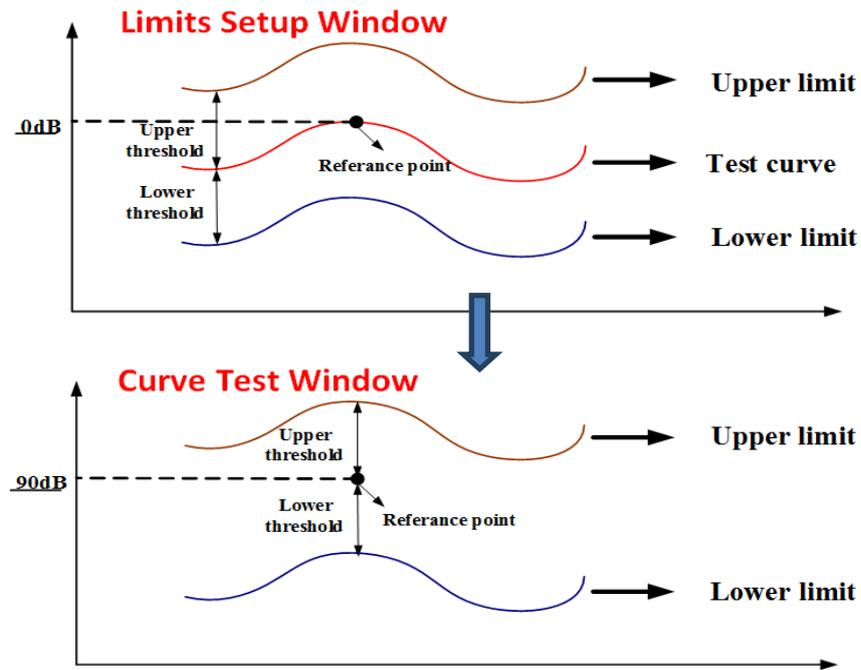

Figure 4.39 Schematic of Absolute Limits Method
To facilitate the setup of curves limits, the software introduces the concept of reference value, that is, the actual curves limits are obtained by drawn curves limits+ reference value. The drawing principle of benchmark curve in the curves limits setup interface is to translate the actual curve to 0, according to the reference frequency point, as shown in Figure 4.39. The reference frequency is 1k. The reference value is 90dB. That is, after the curves limits are set, the curves limits center of 1kHz should be in 90dB.
- ✓ Determine the finally position of curves limits in the test window, according to “frequency response frame reference value” in the scheme setup interface. Figure 4.39 illustrates the determination process of curves limits position. In the figure, the reference value of frequency response frame is 90dB;